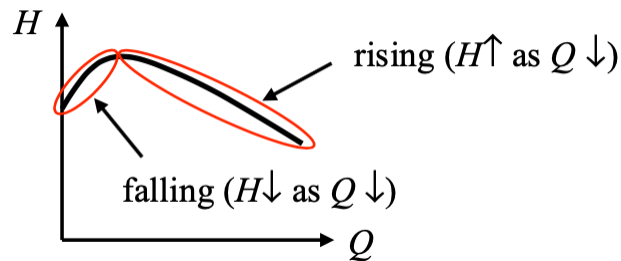
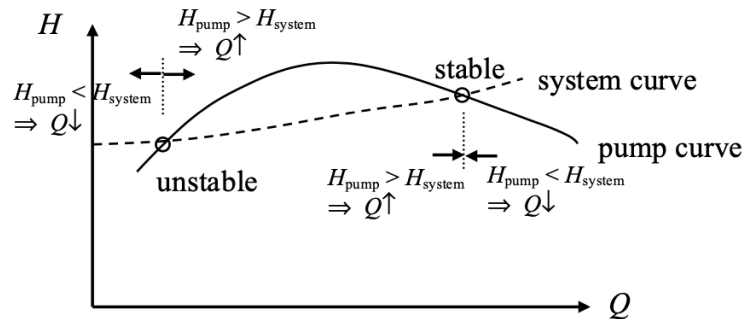

FIGURE 12.35. An illustration of a “falling” pump performance curve.
FIGURE 12.36. An illustration showing stable and unstable operating points.
- (4) Stability issues become significant when the pump has a flat or falling performance curve, which is defined as a performance curve in which H decreases as Q decreases (Figure 12.35). For example, Figure 12.36 shows the system curve intersecting the pump curve at two different flow rates. The flow rate in the falling portion of the pump curve (the left point in the figure) is unstable since a slight perturbation results in the flow rate diverging away from the point. The operating point in the rising portion of the pump curve (right point in the figure), however, is stable since conditions resulting from a small perturbation from this point will drive the flow rate back to the operating point.